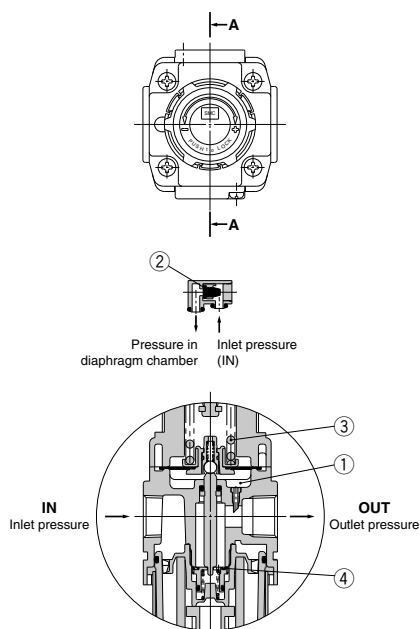

Figure 1 Normal
When the inlet pressure is higher than the regulating pressure, the check valve operates as a normal regulator (Figure 1). When the inlet pressure is shut off and exhausted, any inlet pressure applied to the valve ① will be lost. The force for seating the valve ① is the valve spring force ② only. When the valve ① is opened using the outlet force, the outlet pressure will be exhausted at the inlet side (Figure 2). When the set pressure is 0.15 MPa or less, the valve ① may not open due to the valve spring ② force.
When the inlet pressure is higher than the regulating pressure, the check valve ② closes and operates as a normal regulator (Figure 1). When the inlet pressure is shut off and released, the check valve ② opens and the pressure in the diaphragm chamber ① is released into the inlet side (Figure 2). This lowers the pressure in the diaphragm chamber ① and the force generated by the pressure regulator spring ③ lifts the diaphragm. The valve ④ opens through the stem, and the outlet pressure is released to the inlet side (Figure 2).